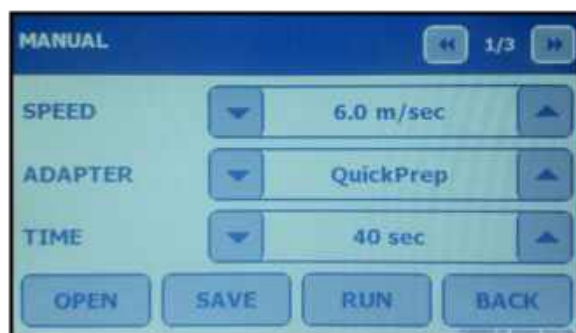

Figure V-9a: Manual Assay Parameters, page 1 of 3
1. Press [PROGRAM MANUALLY] (Figure V-1) at the 'Home Screen'. The FP-24 5G Touch Screen will display the first of three total pages of programmable variables (Figures V-9a, V-9b and V-9c).